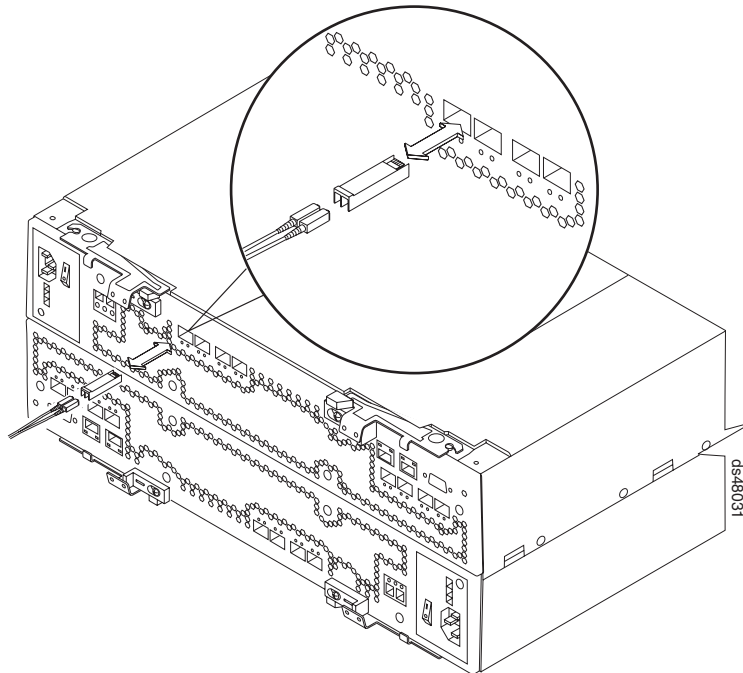

Figure 40. Installing an SFP module and LC-LC cable in a supported DS4000 storage subsystem
2. Connect an LC-LC fibre-optic cable into the SFP module, as shown in Figure 40 on page 60.
**Note:** Figure 40 shows a DS4800 Storage Subsystem. The DS4800 Storage Subsystem is shown for illustrative purposes only.